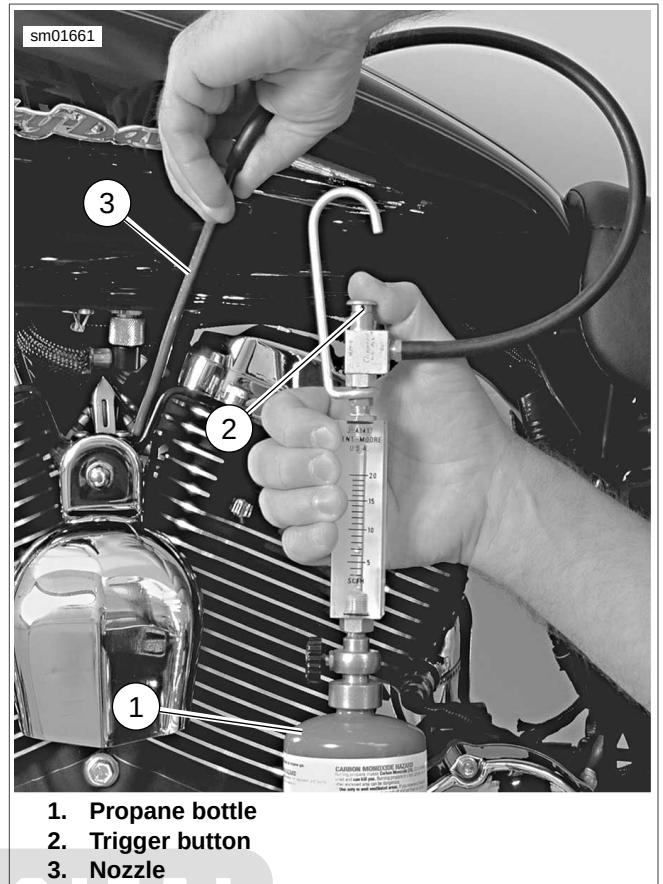

Figure 4-88. Checking for Leaks: All Models (XL 1200C Shown)
- See Figure 4-88. Aim nozzle (3) toward possible sources of leak such as intake manifold mating surfaces.
- Press and release trigger button (2) to dispense propane. Tone of engine will change when propane enters source of leak. Repeat as necessary to detect leak.